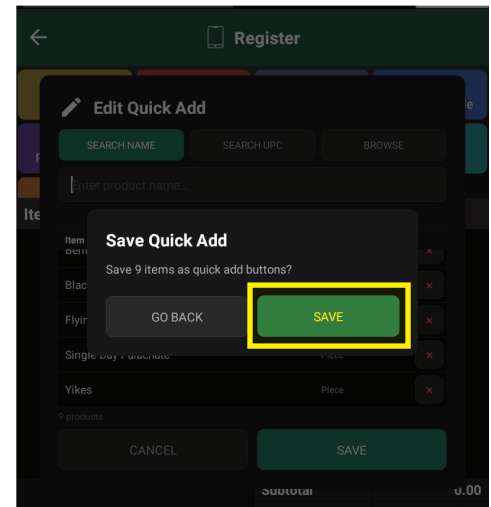

Figure 50
5. After selecting all desired items, tap SAVE to add them to your Quick Pick Menu (Figure 50).